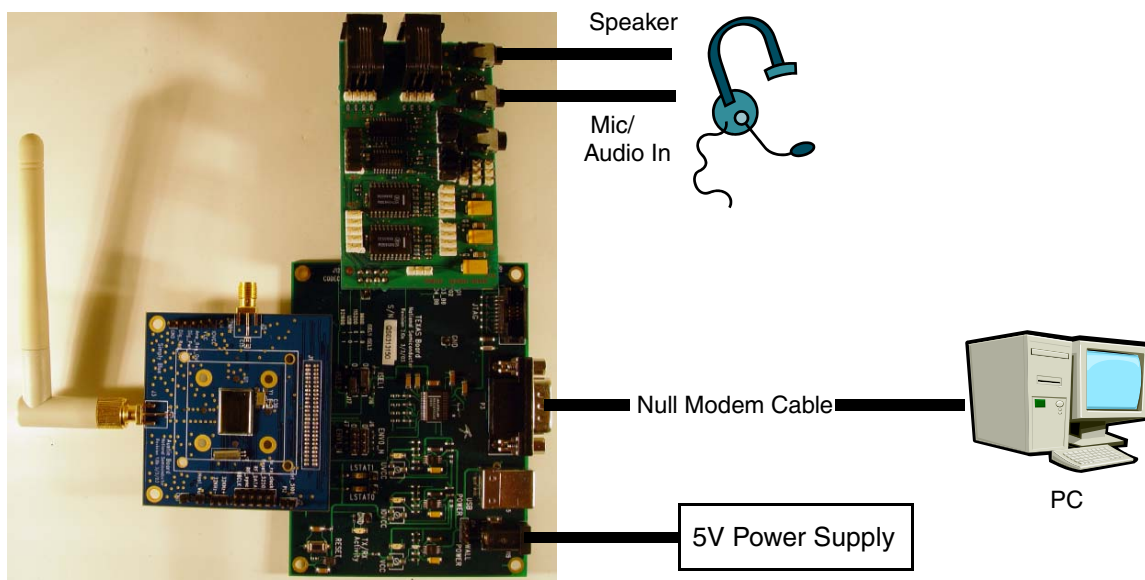

Figure 1-1. PC - Simply Blue Module Connection
- 1) Assemble the kit as shown in Figure 1-1.